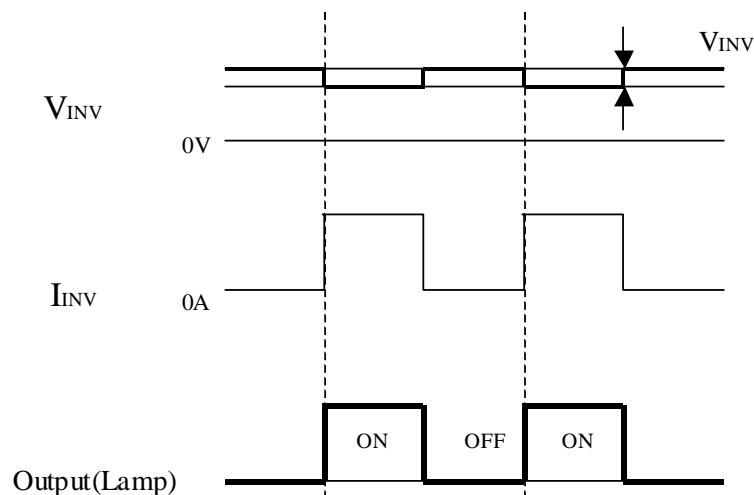

Fig.5 Brightness control and ripple of V_{INV}
- Brightness control voltage is switched for "ON" and "OFF", as shown in Fig.5. Voltage difference generated by this switching, V_{INV} , may affect a sound output, etc. when the power supply is shared between the inverter and its surrounding circuit. So, separate the power supply of the inverter circuit with the one of its surrounding circuit.